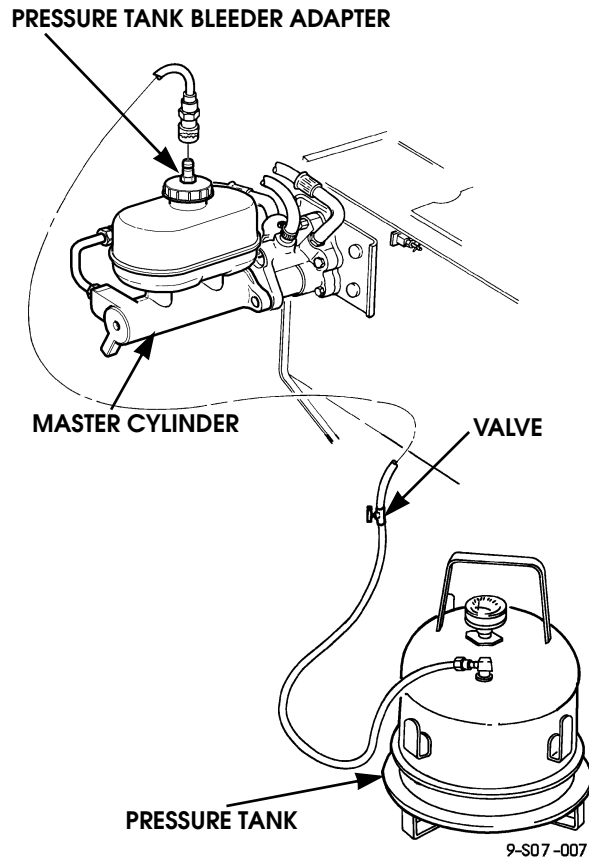

Figure 7-4: Pressure Bleeding Brake System
3. Install pressure tank bleeder adapter to master cylinder (Figure 7-4).
7. Open valve on line from pressure tank to master cylinder allowing pressurized brake fluid to enter system (Figure 7-4).
10. Close valve on line from pressure tank to master cylinder (Figure 7-4).